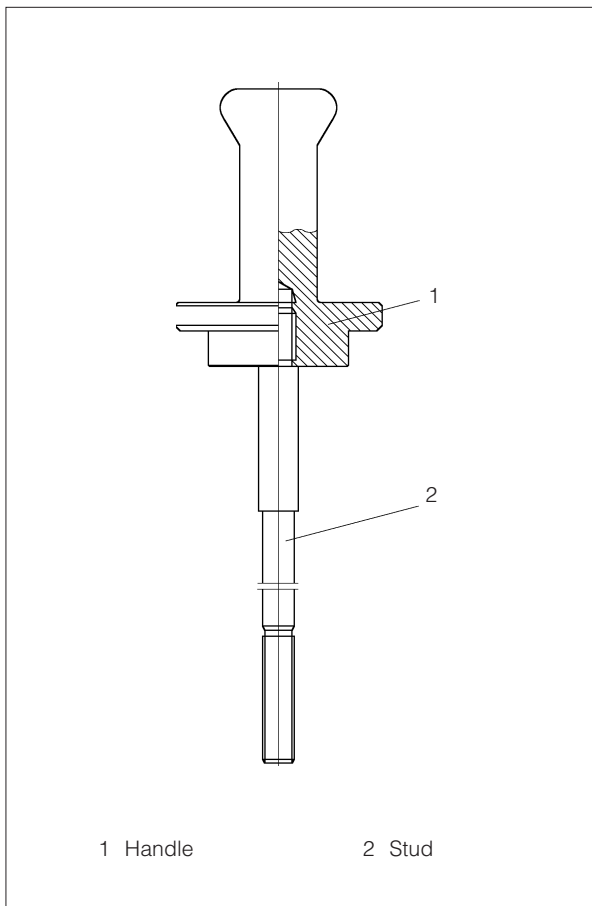

Fig 3.
2) Tools for mounting of valve seat rings are shown in fig 3.